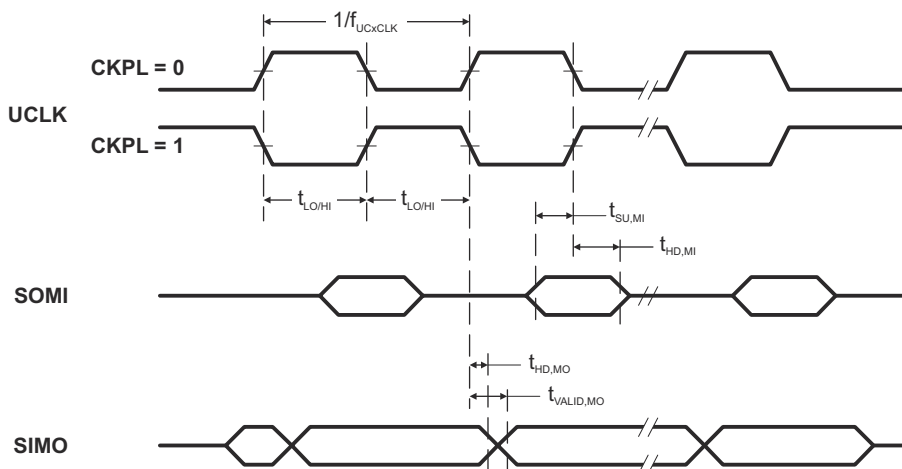
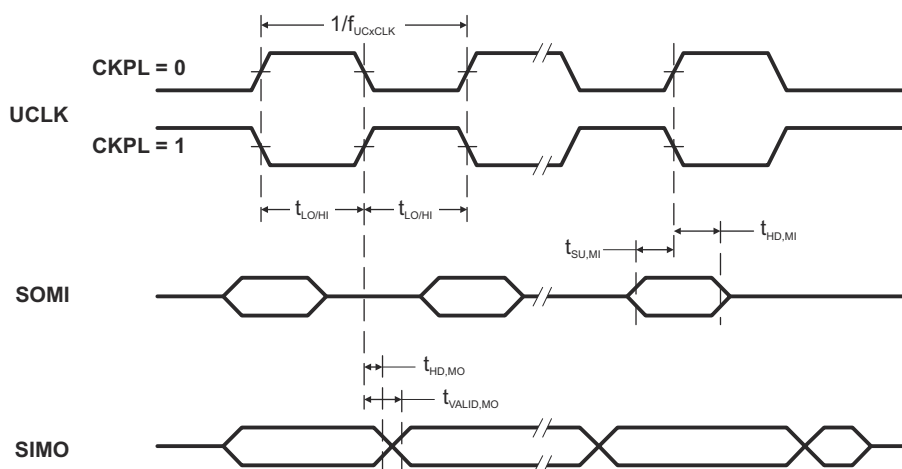

Figure 7-11. SPI Master Mode, CKPH = 0
Figure 7-12. SPI Master Mode, CKPH = 1
(see Figure 7-11 and Figure 7-12)
(2) Specifies the time to drive the next valid data to the SIMO output after the output changing UCLK clock edge. See the timing diagrams in Figure 7-11 and Figure 7-12.
(3) Specifies how long data on the SIMO output is valid after the output changing UCLK clock edge. Negative values indicate that the data on the SIMO output can become invalid before the output changing clock edge observed on UCLK. See the timing diagrams in Figure 7-11 and Figure 7-12.